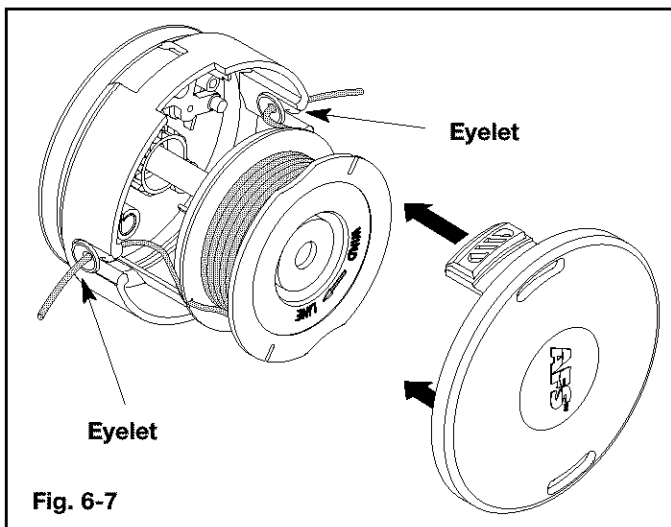

Fig. 6-7
13. Insert the ends of the line through the eyelets in the outer spool and place inner reel inside the outer spool (Fig. 6-7).
3. Take the prewound inner reel and insert the ends of the line through the eyelets in the outer spool (Fig. 6-7).